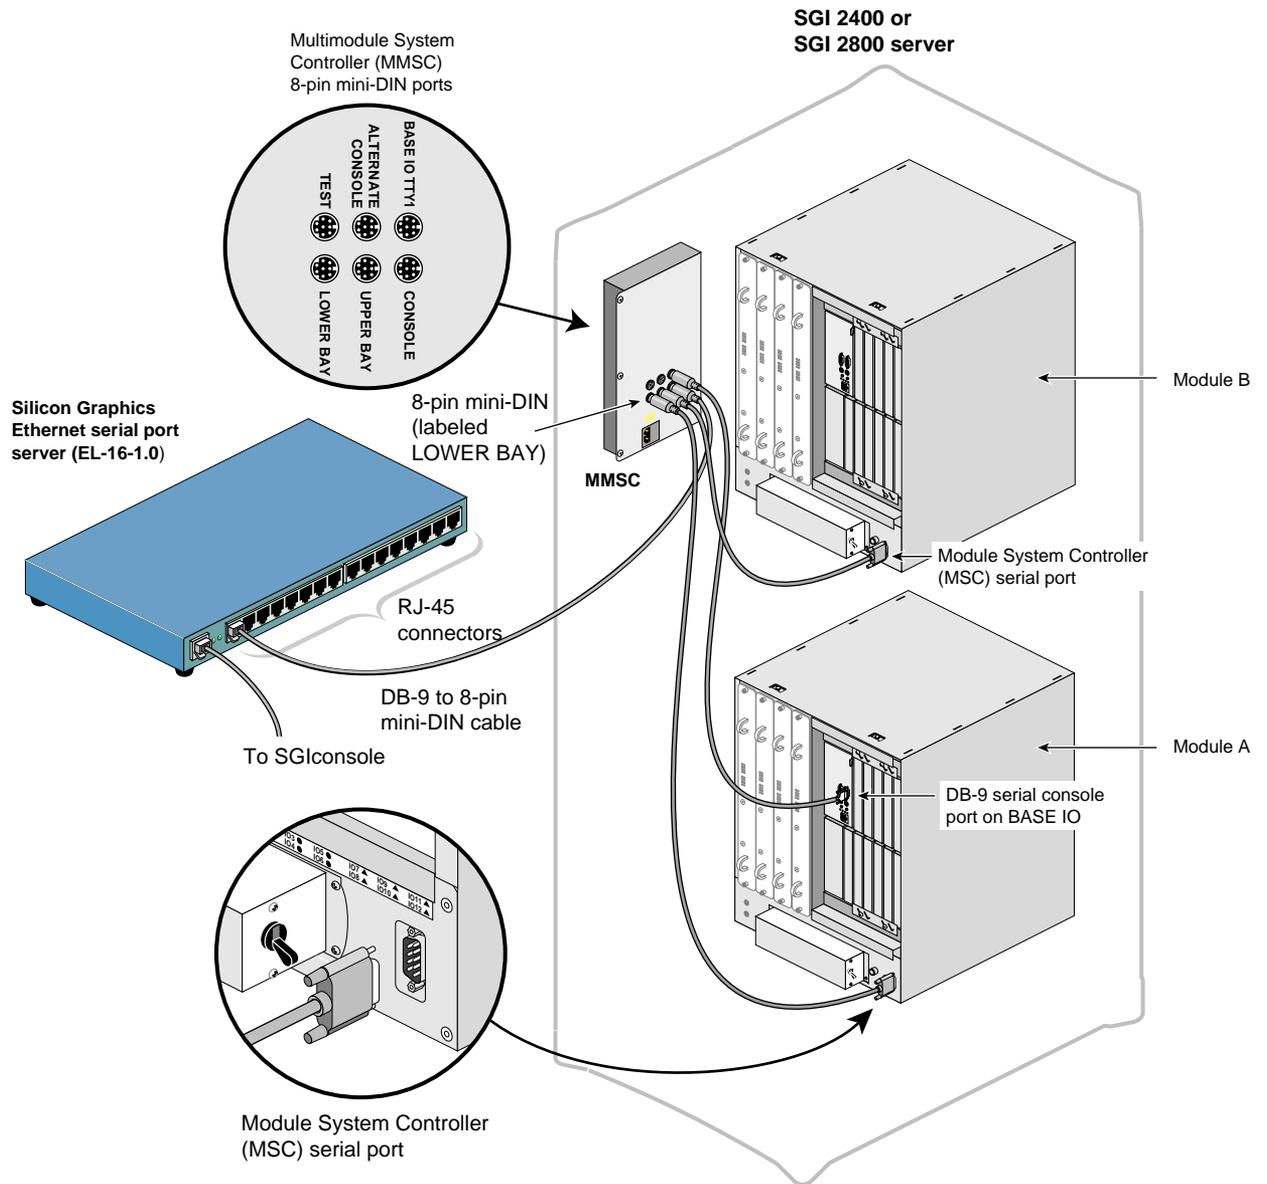

Figure 2-27 Connecting the MMSC Lower Bay Connector to the Module A MSC Serial Port
8. Connect the 8-pin connector of the third 8-pin mini-DIN to DB-9 cable to the MMSC connector labeled "Lower Bay." Connect the DB-9 connector end of the same cable to the Module System Controller (MSC) serial port connector of the SGI 2400 or SGI 2800 server module A located in the lower bay of the rack. See Figure 2-27.